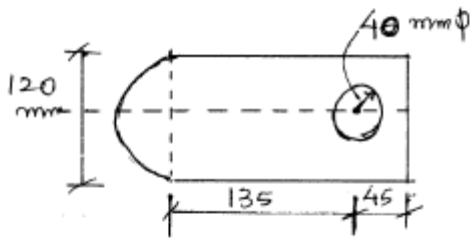

Fig. 3. Q.2(b)
- (b) Determine the centroid of the plane area in which a circular part of 40 mm radius, has been removed as shown in Fig.3. **07**